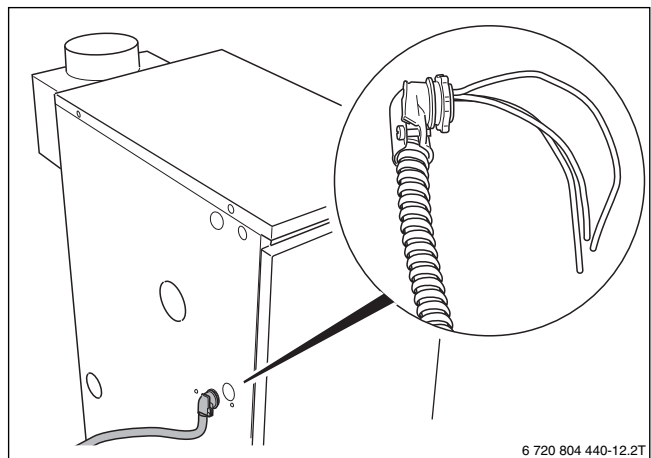

Fig. 12 Strain relief for shielded electrical wiring
- ▶ Install a metal strain relief for the incoming power line on outside of left boiler jacket panel. (→ figure 12).